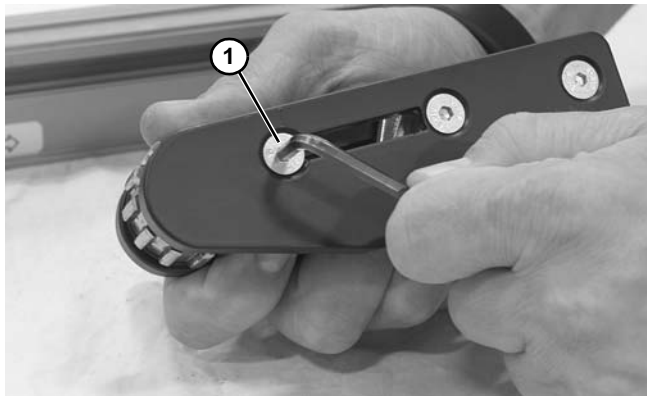

Figure 63
3. Remove fastening screw (**Figure 63, item 1**).